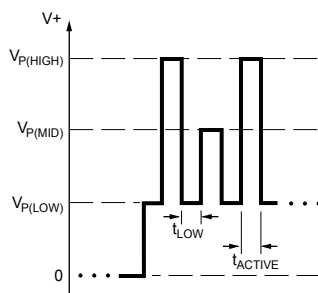

Figure 4. Parameter selection pulse train. This shows the sequence for selecting the register corresponding to key 1, indicated by a single  $V_{P(MID)}$  pulse.
Each programmable mode and parameter can be accessed through specific registers. To select a register, a sequence of voltage pulses consisting of a  $V_{P(HIGH)}$  pulse, a series of  $V_{P(MID)}$  pulses, and a  $V_{P(HIGH)}$  pulse (with no VCC supply interruptions) must be applied serially to the supply pin. The quantity of  $V_{P(MID)}$  pulses is called the key, and uniquely identifies each register. The pulse train used for selection of the first register, key 1, is shown in figure 4.